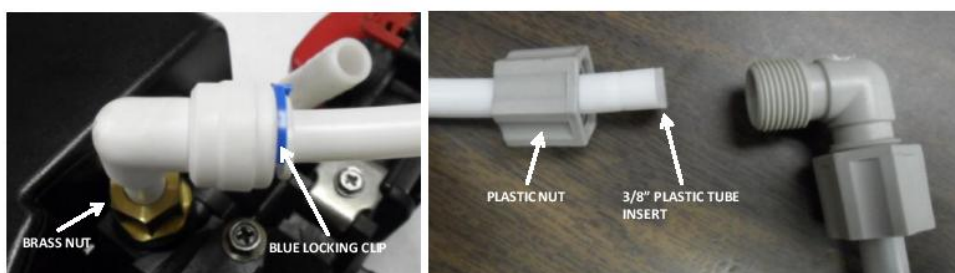

Figure 8. Brine Line Connections View
- Connect the brine line from the valve to the air check / safety elbow as per figure 8. Double check to make sure all connections are assembled correctly and the brass and plastic nuts are tight and secure to prevent leaks.